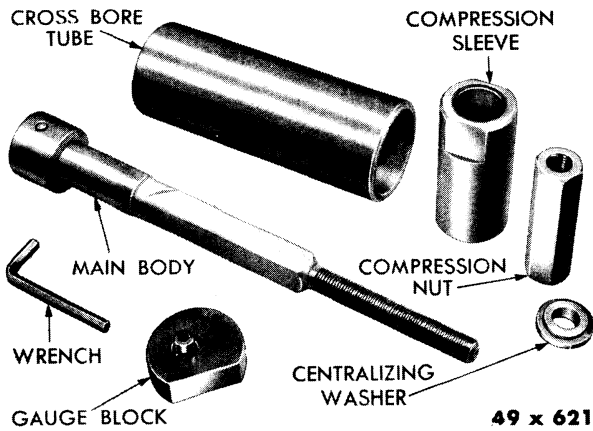

Fig. 31—Special Tool Set C-758-D2
Place the bearing cups in position in the carrier. Then, refer to Figures 31 and 32 and proceed as follows:
- (1) Where pinion bearings are installed without pre-loading, the cones are not drawn far enough into their cups to bring the rollers in full contact with the thrust ribs on the cones. Bearings installed in this manner would allow the pinion to “walk” backward and forward under operating loads. This causes a variation in tooth contact pattern, resulting in excessive wear and scoring of gears which usually is accompanied by noise.
- (2) On the other hand, where the pinion bearing cones are drawn too far into their cups, the bearings are overloaded before they have to withstand operating loads imposed upon them by the gears. They are apt to “burn up” under a driving load—the rollers might score the cups, causing bearings to spall or flake, resulting in premature axle failure.
With the use of special Tool C-758-D2 (Fig. 31), items 1 and 2, pinion bearing pre-load and pinion setting can be pre-determined, thus saving considerable time and labor incurred in the old trial and error method. Also, the pinion bearing cups can be installed with this tool.